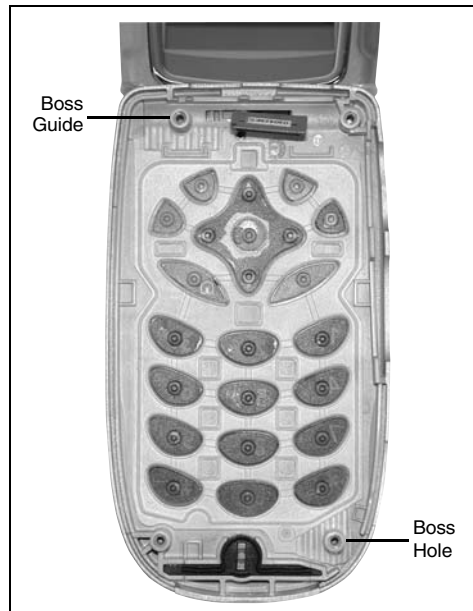

Figure 7-18.
1. Align keypad with bosses inside Front Housing (see Figure 7-18).